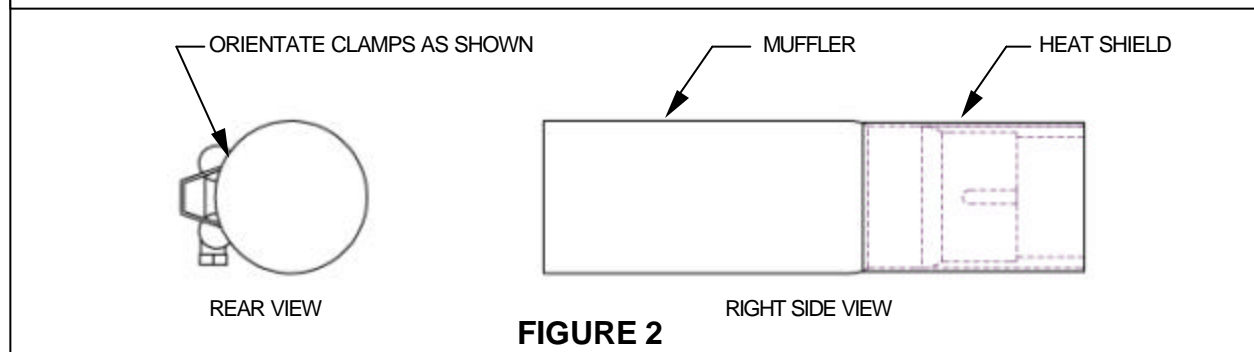

FIGURE 2
4. Slide one supplied clamp #27-61MSC onto each muffler and position as shown in Figure 2.
9. Adjust the mufflers so that they are in proper alignment with the heat shields as shown in Figure 2. **NOTE:** On Part #4566SC, the heat shield should cover the weld. Rotate the muffler clamps so they don't interfere with the heat shield fitment but are still accessible to tighten. (**NOTE:** If the clamps are slid to far up on the muffler or past the slots, the clamps will not tighten.)
13. Install the regulator onto the Cobra black regulator relocation bracket using the stock bolts and two (2) 6mm nylock nuts supplied.